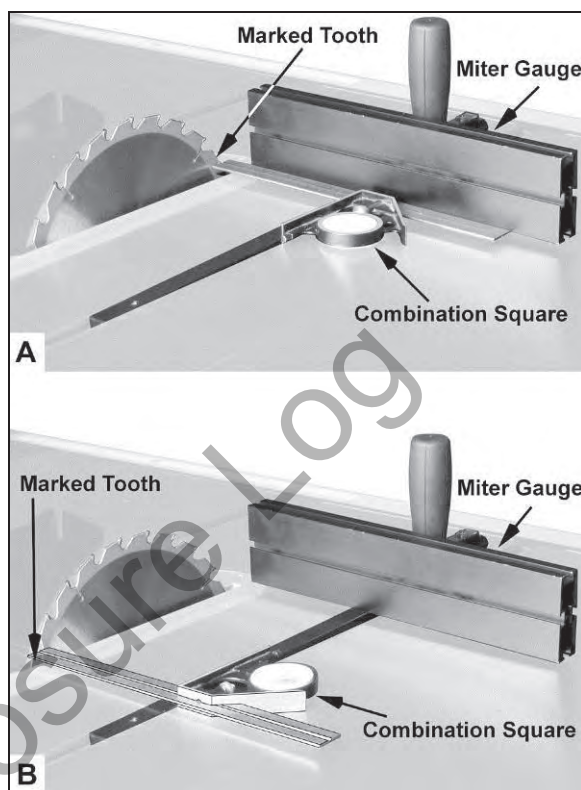

Figure 13
3. Raise the miter gauge slightly out of its slot to serve as a shoulder. Using a combination square against the side of the bar, slide the scale over until it touches the tip of the blade, and lock the scale in position (A, Fig. 13).
4. Rotate the marked tooth so that it is slightly above the table top at the rear (B, Fig. 13) and using the square as before, check whether the distance to the blade is the same.